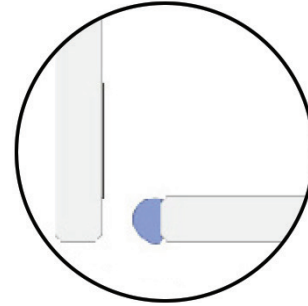

FIG 14.
- Run a continuous bead of silicon down entire length of 10mm face of installed wall to glass panel and across the floor channel to the width of the glass to glass panel (FIG 14).